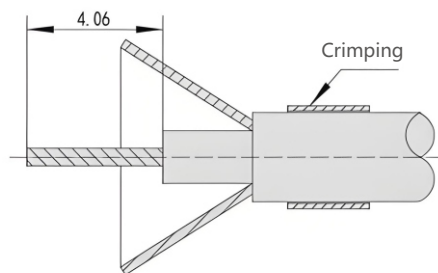

Figure 1.2
- ② As shown in Figure 1.2, slide the crimp sleeve backward onto the cable jacket, spread the shielding layer, and strip off the cable insulation medium.